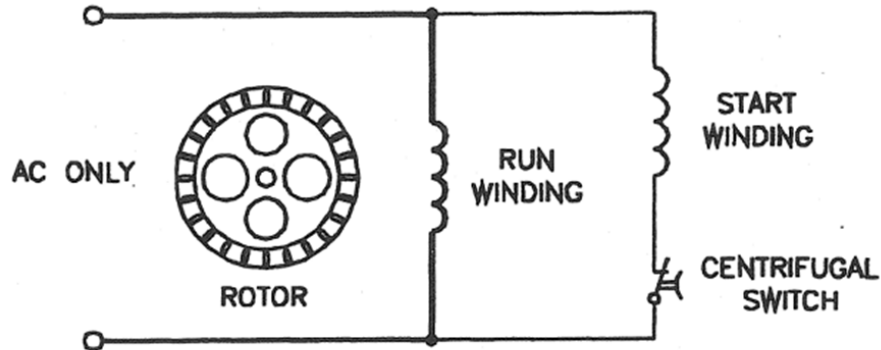

Figure 5 - Typical split-phase motor connection.
14. In a typical split-phase motor the start and run windings are connected in parallel across the single-phase a.c. supply and a centrifugal switch are connected in series with the START winding as shown in Figure 5.